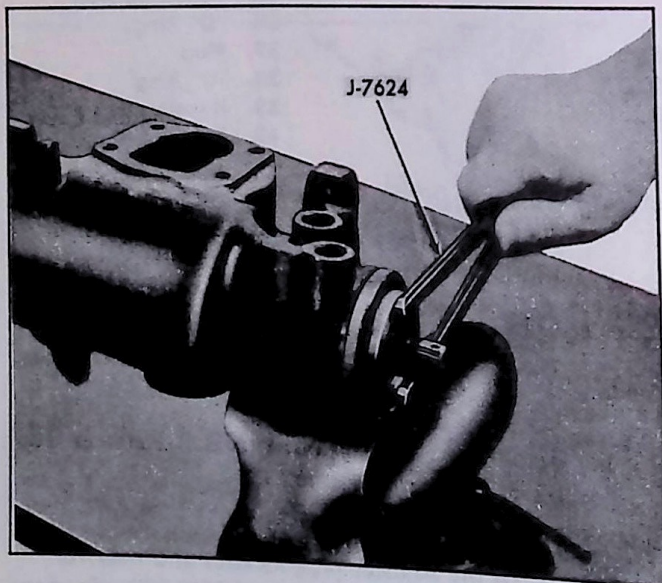

Fig. 36—Removing Adjuster Plug
- Wrench J-7624 (fig. 36). Remove and discard the plug "O" ring.